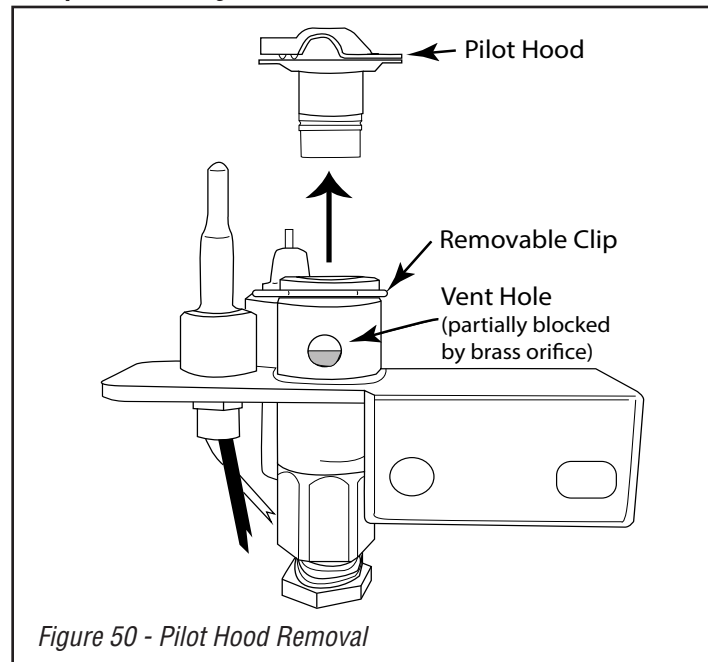

Figure 50 - Pilot Hood Removal
The pilot hood will lift straight up and out of the pilot assembly after removing the wire clip with a small screwdriver or needle-nose pliers. *See Figure 50.*
NOTE: Figures 50 and 52 provide a visual reference of the pilot orifice from Natural gas to LP gas through the vent hole of the pilot assembly.
Step 10. Look for the low rate set screw in the gas valve box. There is a cutout (window) area that allows access to the low rate set screw. *Figure 50* shows the side view of the burner pan and a close-up detail.